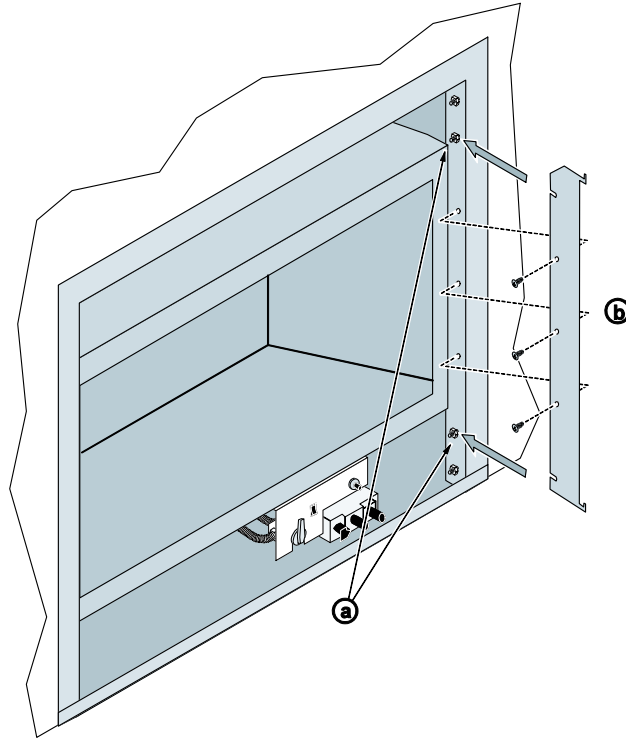

Figure 9
- 1 Remove the glass frame (see owner's manual for details). Remove the two mounting bracket nuts and bushings (see "a" Figure 9). Use the included screws to attach the face mounting brackets (see "b" Figure 9). Replace the nuts removed earlier (without bushings) to further secure the brackets.